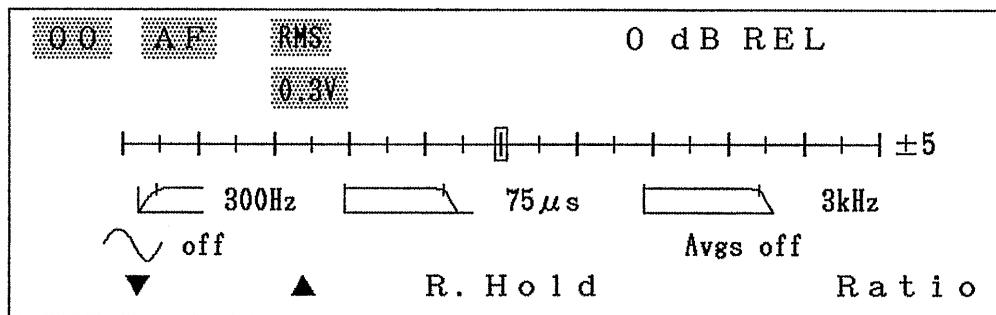

Fig. 4-13
2. The signal generator (SG) is set to the external modulation mode and the frequency, output level and modulation factor are set.
5. The frequency of the external audio frequency oscillator is set to 1kHz and the F5 Ratio function key ⑧ is pressed to inversely display it in dark characters on a light background.
6. All settings are now completed. The frequency characteristics for the frequency of the external audio frequency oscillator can be read directly from viewing area 2 as shown in Fig. 4-13. In addition, a rough idea of deviation can be determined from the bar graph.
7. Either LOG display (dB) or LIN display (%) can be selected for display of frequency characteristics. Switching between these two is performed by pressing the F4 and F5 keys after pressing the Yellow key ④.